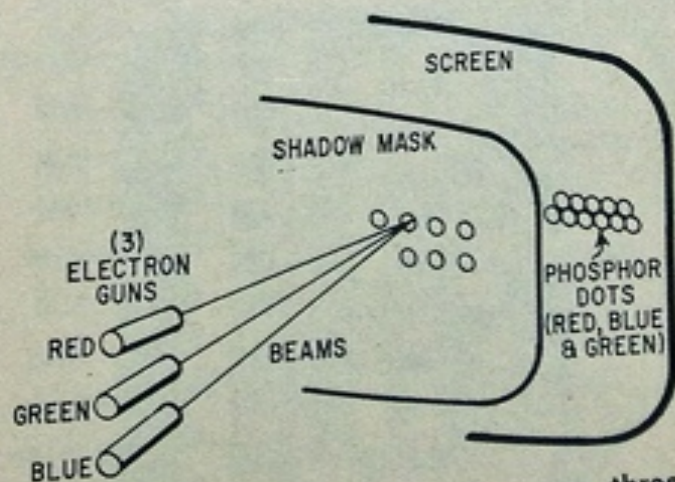

Fig. 8. Conventional color tube uses three guns, shadow mask, and phosphor-dot screen.
**Unmasked.** Other features of the Chromatron are apparent when the tube is compared to the conventional "shadow" mask color tube, shown in Fig. 8. The standard tube utilizes three electron guns aimed at a screen covered with tiny phosphor dots. Each gun is driven by color signals from the